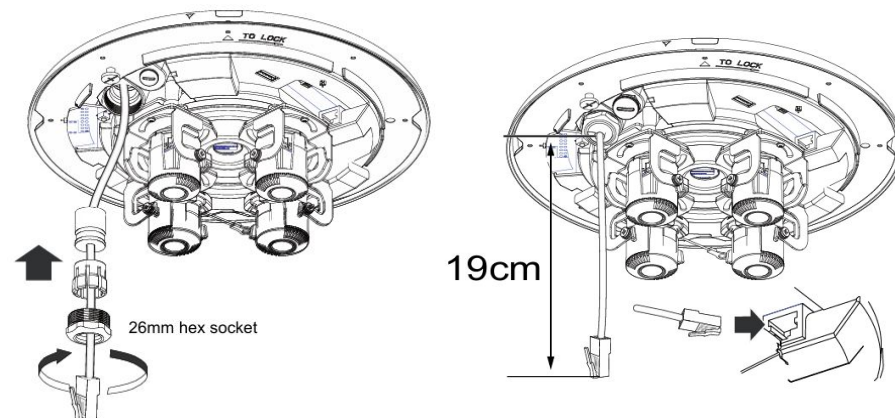

Figure 1-7
Step 7 Thread the cable through the grommet and properly reinstall the hex plug assembly, then make your cable connections. See Figure 1-7.